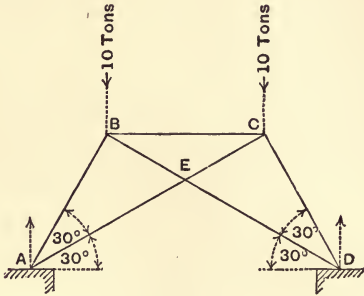

Fig. 3.
5. The framework illustrated in fig. 3 is supported by vertical reactions at  $A$  and  $D$ . Use the method of section to determine the stress in  $BC$